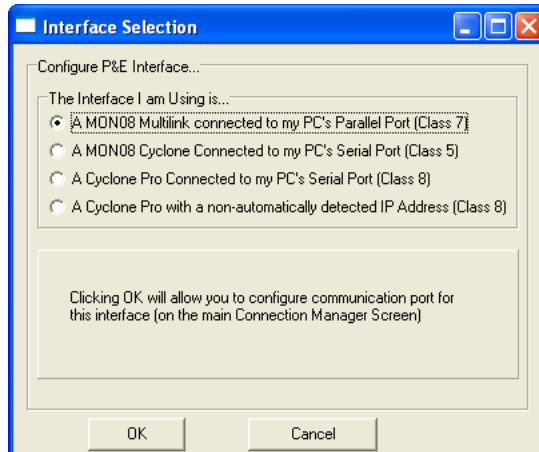

Figure 8-12: P&E Multilink/Cyclone Pro Manual Interface Selection
5. To add a serial/parallel port P&E device such as Cyclone Pro Serial, MON08 Multilink and Cyclone Pro Ethernet (IP outside of subnet mask), proceed to the Interface Selection Manager by pressing the “Add A Connection” button. See **Figure 8-12**. For more information about configuring Cyclone Pro for Ethernet operation, please see the Cyclone Pro User's Manual.